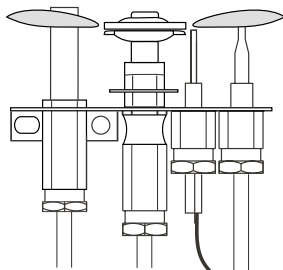

Figure 28. Pilot Burner
2. Adjust pilot screw to provide properly sized flame as shown in figure 28).